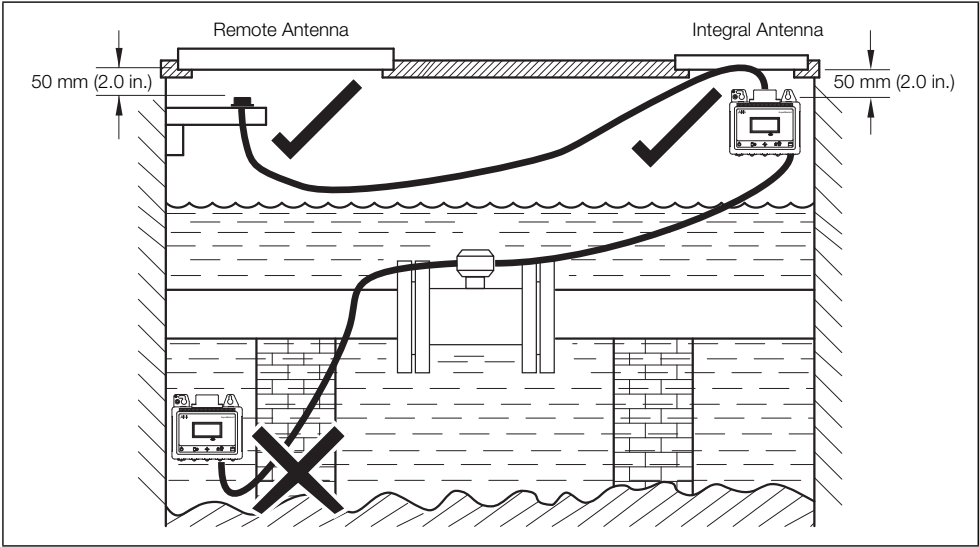

Fig. 2.14 GSM Antenna Installation
- the antenna, mounted 50 mm (2 in.) below the chamber cover, must be plastic – see Fig. 2.14, page 12
- Ensure the antenna does not become submerged under water – see Fig. 2.14, page 12.